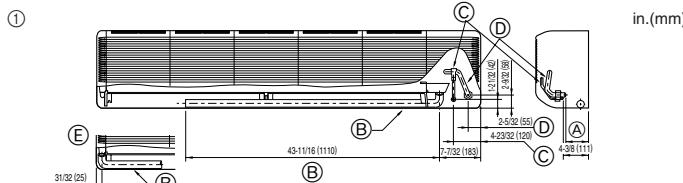

Fig. 4-5
- (E) Left-side piping
- (F) Lower piping
- (G) Right-side piping
- (H) Remote controller cable through hole
- (I) Corner box
① Position of refrigerant and drain piping (Fig. 4-5)